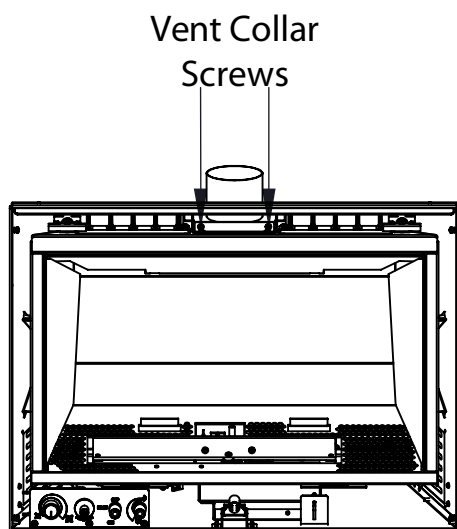

Figure 26: Vent Collar Plate Screw Location.
5. If the fireplace opening is lower than 20" (483mm), remove the vent collar plate from the top of the insert by unscrewing the two (2) T-20 Torx screws located on the center top of the stove above the door opening (see Figure 26). Slide the collar plate backwards. Properly secure the vent collar plate to the flexible vent pipe liner(s) previously installed in the chimney. Be careful not to over-stretch the liner(s).